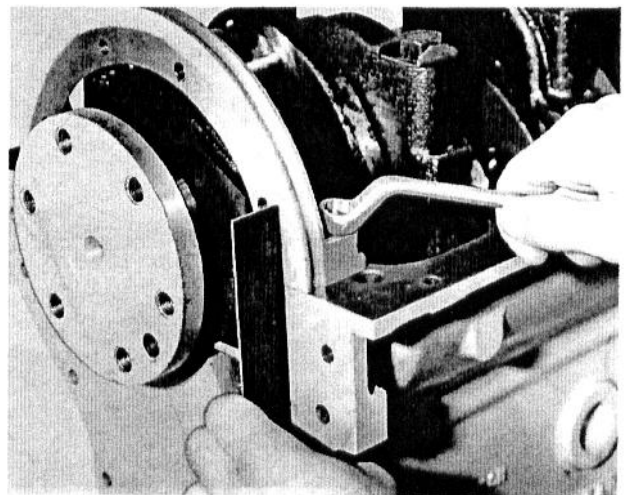

Fig. 25 – Installing the Oil Pan Seal Housing
8. Install oil pan seal housing, aligning it flush with the rear face of the block as shown in Fig. 25.